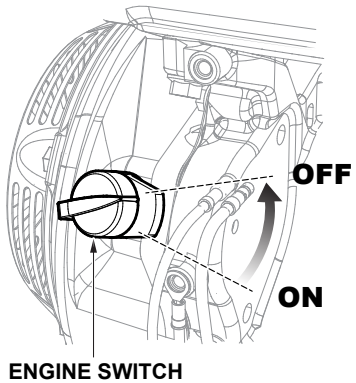

Figure 29. Engine ON/OFF Switch (OFF)
2. Turn the engine ON/OFF switch (Figure 29) to the **OFF** position.